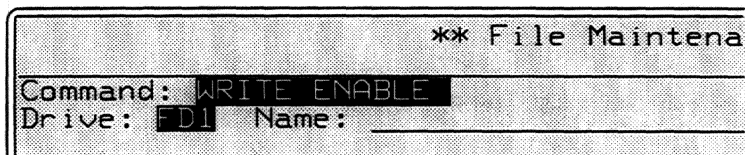

Figure 15-7 The name of the current disk is selected in the Drive field.
1. *Current drive.* At the top of the screen, just below the **Command** field, the name of the current disk is given (see Figure 15-7). The files displayed in the directory listings on the screen reside on the disk named in this area.
2. *Name field.* Every command requires at least one filename and provides a field in the menu area for filename entry (see Figure 15-7) where you MAY enter the name of the file to be acted upon. The file's absolute or relative pathname can be entered. If you enter the filename, you must type it exactly as it appears in the directory listings.